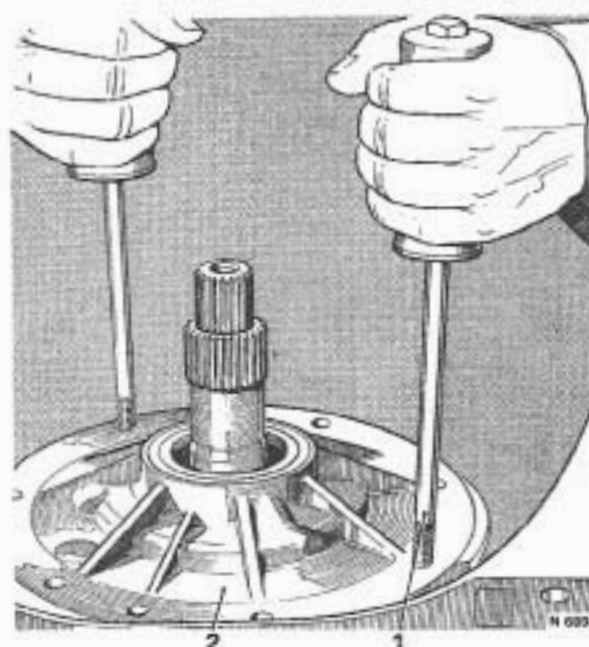

FIG. T224 REMOVING THE OIL PUMP
17. Remove the pump from the casing by driving it outward using the slide hammers (see Fig. T224).